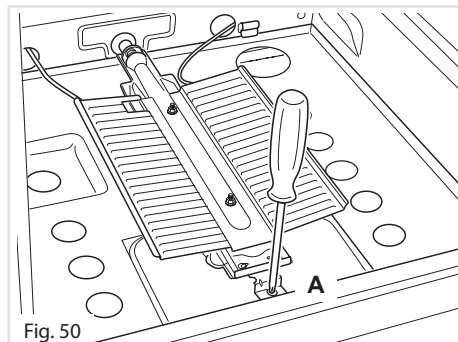

Fig. 50
- Unscrew and remove the burner securing screw “A” (fig. 50).